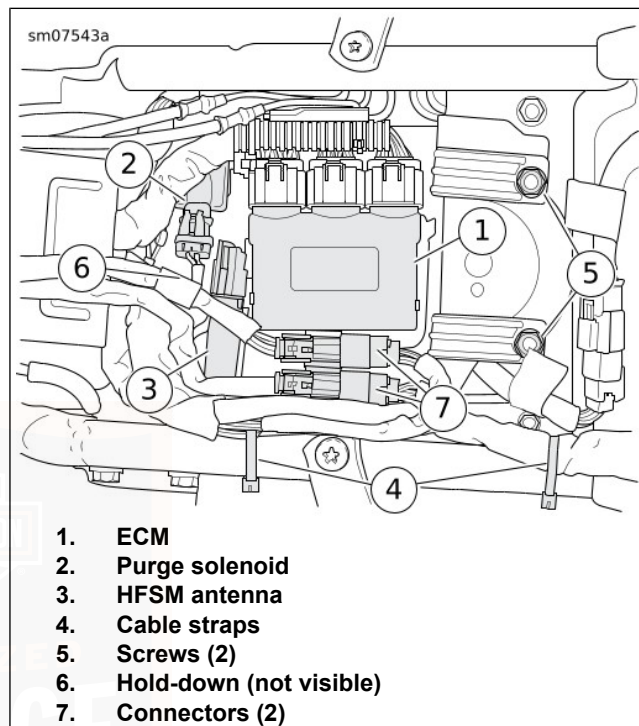

Figure 84. Top Caddy
2. See Figure 84. Release ECM (1) from top caddy. Move out of the way.
3. If present, move purge solenoid (2) forward to release from top caddy.
4. **Models with security system:** Release HFSM antenna (3) from top caddy and move out of the way.
5. Release connectors (7) from anchors on top caddy.
6. Remove fasteners (5).
7. Cut cable straps (4). Move harnesses to allow more clearance for the top caddy.
7. See Figure 84. Place top caddy into position and engage latch on hold-down bracket.
8. Fasten top caddy to frame crossmember with fasteners (5). Tighten.